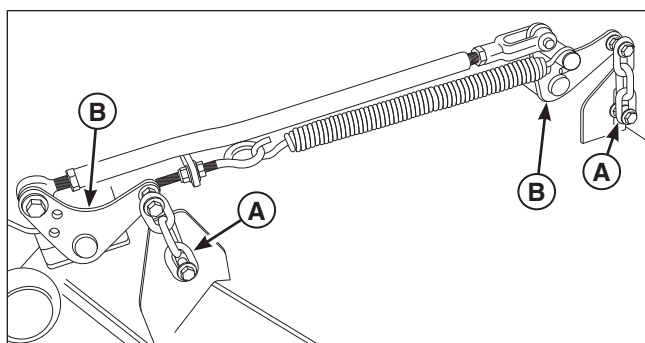

Figure 54. Removing the Hanger Chains
5. Loosen and remove the hardware that secures the top of the hanger chains (**A**, **Figure 54**) to the deck lift rod pivots (**B**)
6. Install the hanger chains to the deck lift rod pivots as shown in figure 54.